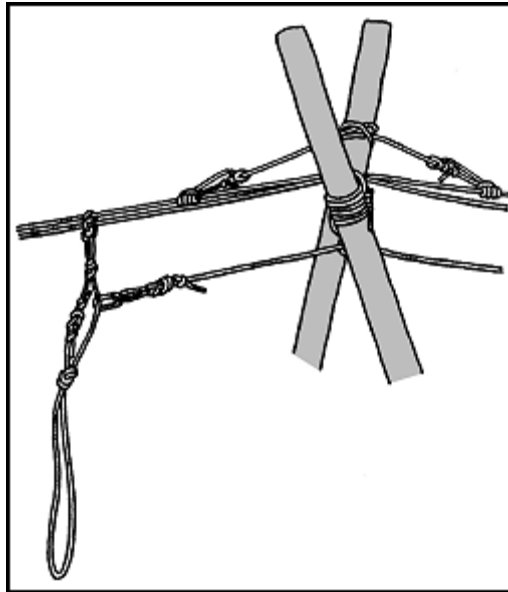

Figure 7-23. Carrying rope for use on a traverse.
(4) Use a carrying rope to attach loads to the traverse ropes (Figure 7-23). Join the ends of a 14-foot sling rope with a square knot and two overhand knots. Displace the knot one-third of the distance down the loop and tie an overhand knot both above and below the square knot. This forms two small loops and one large loop that is longer than the two small loops combined.
(5) Attach the carrying rope to the traverse ropes with carabiners (or a pulley) that have the gates reversed and opening in opposite directions. Attach a belay rope to the center loop of the carrying rope using a fixed loop or locking carabiner on the side opposite the joining knot (Figure 7-23). When the suspension traverse is near horizontal, a second rope may be needed to pull the load across and should be attached to the carrying rope the same as the first.
(6) Insert second carabiner into the one placed into the wraps of the A-frame. This is where a belay rope will be attached
(7) With a sling rope, tie a six wrap middle-of-the-rope Prusik knot to both static ropes near the far side off-loading point. This acts as a stopper knot for the man descending, preventing him from hitting the lower anchor.
(8) Attach the load by running the long loop of the carrying rope through the load or through the soldier's harness and attaching the bottom loop to the traverse rope carabiner. Descent must be belayed slowly and be controlled. Soldiers descending should hold onto the carrying rope and keep their feet high to avoid contact with the ground. Due to the constant tension maintained on the belayer, use a mechanical belay. If the belayer cannot view the entire descent route, use a relay man.